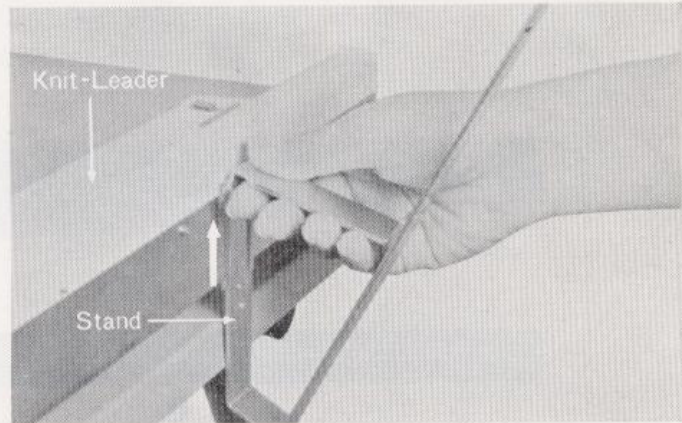

Fig. 2
(1) Take the Knit-Leader out of the cardboard case and put it on the table. Then take out the Stands and insert its legs on both sides into the leg holders of the Knit-Leader all the way. (Fig. 2)